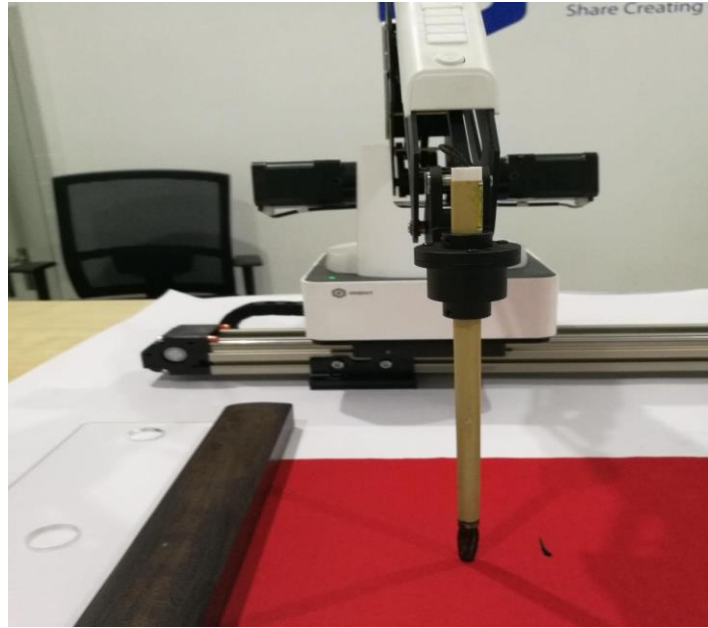

Figure 1.17 Adjust the height of pen
**Step 7** Adjust the height of pen. If you want to write bold characters, you should make the pen more close to the paper. According to your needs to adjust it appropriately. As shown in Figure 1.17.